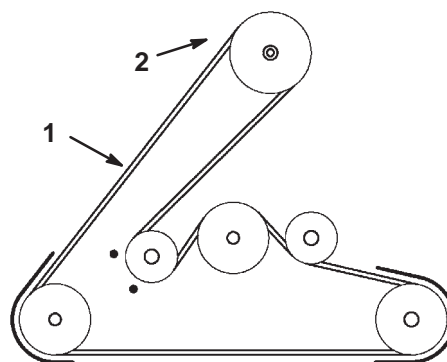

Figure 42
3. Install the mower belt onto the electric clutch pulley (Fig. 42).